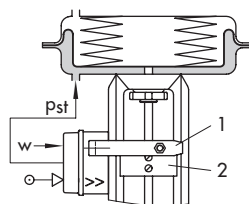
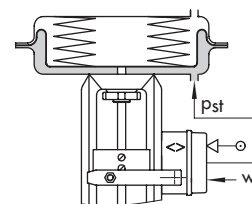
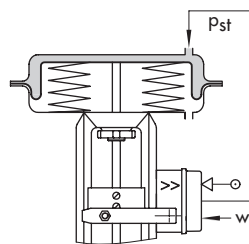
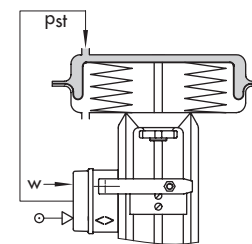

Fig. 4: Direction of action \gg
Fig. 5: Direction of action \ll
Fig. 6: Direction of action \gg
Fig. 7: Direction of action \ll
When the reference variable increases, the signal pressure can be selected to be increasing/increasing (direct action \gg) or increasing/decreasing (reverse action \ll). The direction of action depends on the position of the nozzle assembly that can be turned by 180°. The visible marking (\gg or \ll) indicates which direction of action is effective. On changing the direction of action or the fail-safe position, note that the positioner must also be mounted in a different position (Fig. 4 to Fig. 7).
Fig. 4 to Fig. 7 schematically illustrate the arrangement of the actuator, mounting position of the positioner, reference variable, and direction of action.
Actuator stem extends (Fig. 4/Fig. 5)
Actuator stem retracts (Fig. 6/Fig. 7)
Fig. 4 to Fig. 7 illustrate the different directions of action and the mounting positions of the positioner. Right and left attachment apply when looking onto the lever (1) and plate (2).